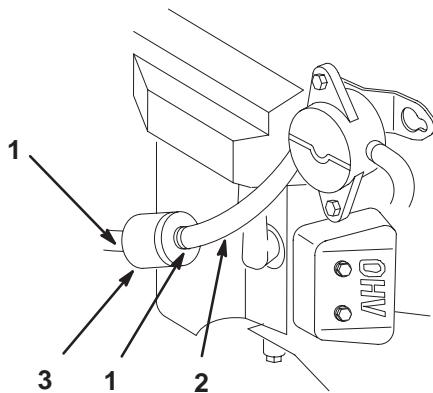

Figure 44
4. Squeeze the ends of the hose clamps together and slide them away from the filter (Fig. 44).